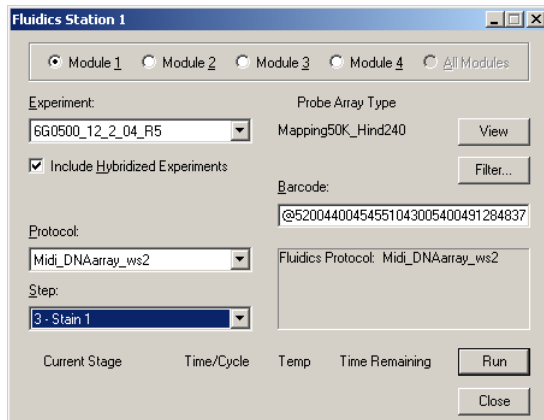

Figure 2.4
3. In the **Protocol** drop-down list, choose the protocol that matches the cartridge type (Figure 2.4).